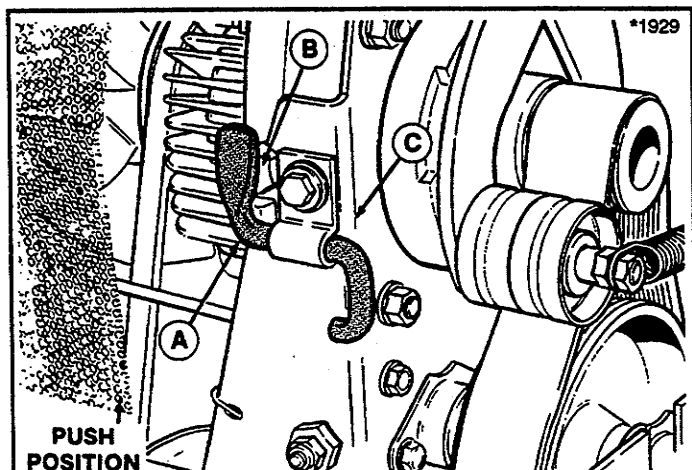
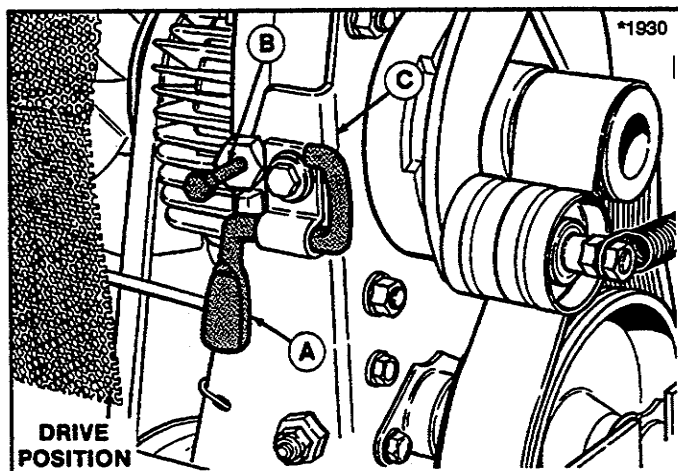

Figure 14. Transaxle Release Lever Engaged
Figure 15. Transaxle Release Lever Disengaged
To push the rider by hand, the hydro release valve must be engaged so that the plunger on front of the transmission is depressed (figure 14). To drive the rider, the release valve must be disengaged (figure 15).
1. See figure 14. To engage the release lever (A), pull the lever toward the left to clear pump bracket (C), then flip it up so the lever depresses the plunger.
2. See figure 15. To disengage the release lever, pull the lever toward the left, then flip it down. Push the lever towards the right to secure it into position.